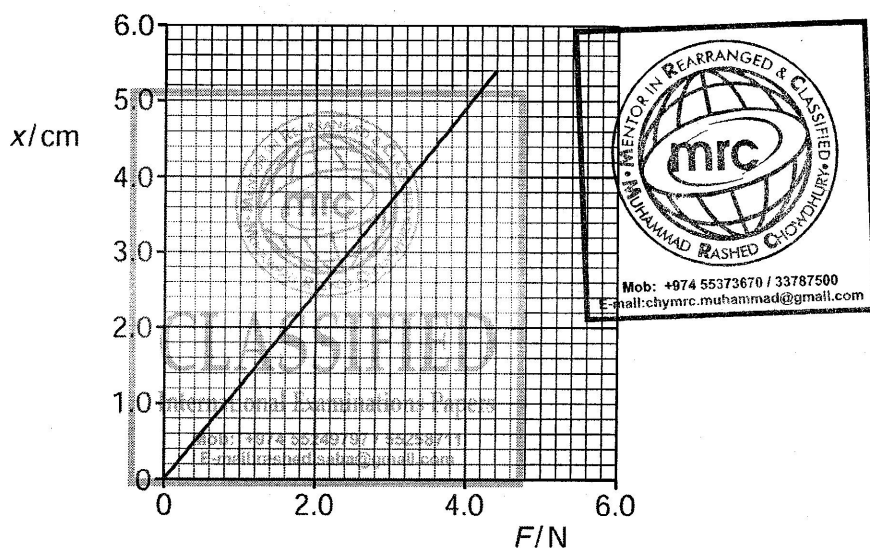

Fig. 3.2
The mass of T is 250 g. T compresses the spring by 5.4 cm as it comes to rest. The relationship between the force  $F$  applied to the block and the compression  $x$  of the spring is shown in Fig. 3.2.
- (a) Use Fig. 3.2 to determine